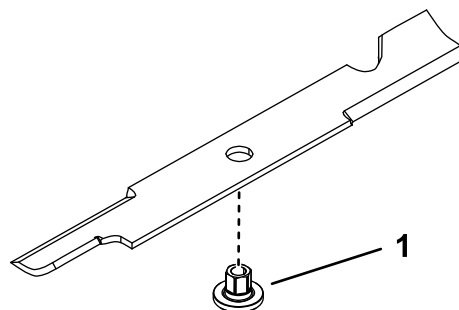

Figure 100
1. Install the bushing through the blade with the bushing flange on the bottom (grass) side of the blade (Figure 100).